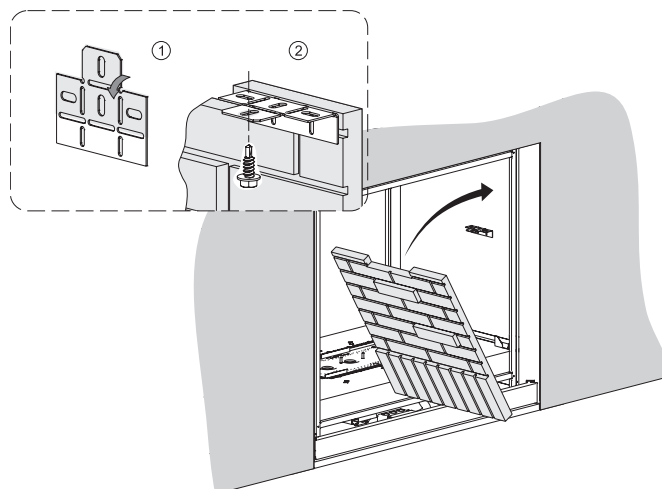

Figure 63
8. Set the bottom edge of the fiber or porcelain liner in front of the bottom brick bracket (not behind) and tilt it into place against the top brick bracket. **See Figure 63.**
9. Secure the fiber or porcelain liner in place using the remaining hand-formed retaining bracket. Form the bracket as shown and fasten it to the firebox top using a self-drilling screw. **See Figure 63.**